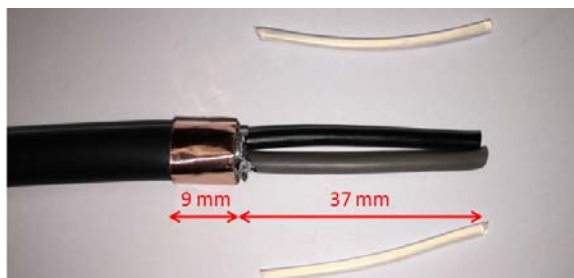

Figure 14
- Remove the two fillers (Fig 14)